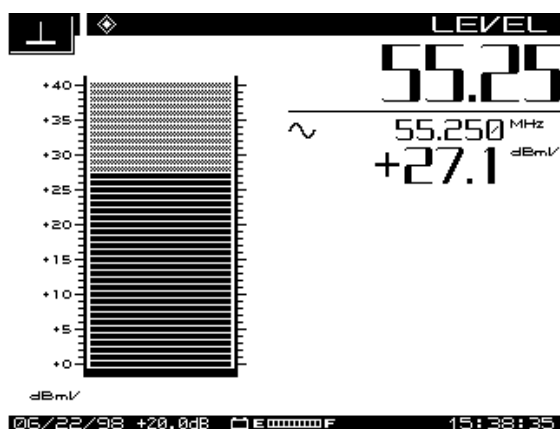

Fig. 6-2 LEVEL Mode Display, Specific Frequency Only
- **Tune by frequency:** To tune by frequency, use the numeric keys to enter a frequency, followed by the **FREQ** key (see Fig. 6-2). Use the left and right diamond keys to decrement and increment the frequency. The step size for these frequency changes is programmed during setup.
Fig. 6-2 shows the display for tuning by frequency. With only a single frequency involved, there is no Delta value. The display is a graphical view of the Level measurement, referred to dBmV.